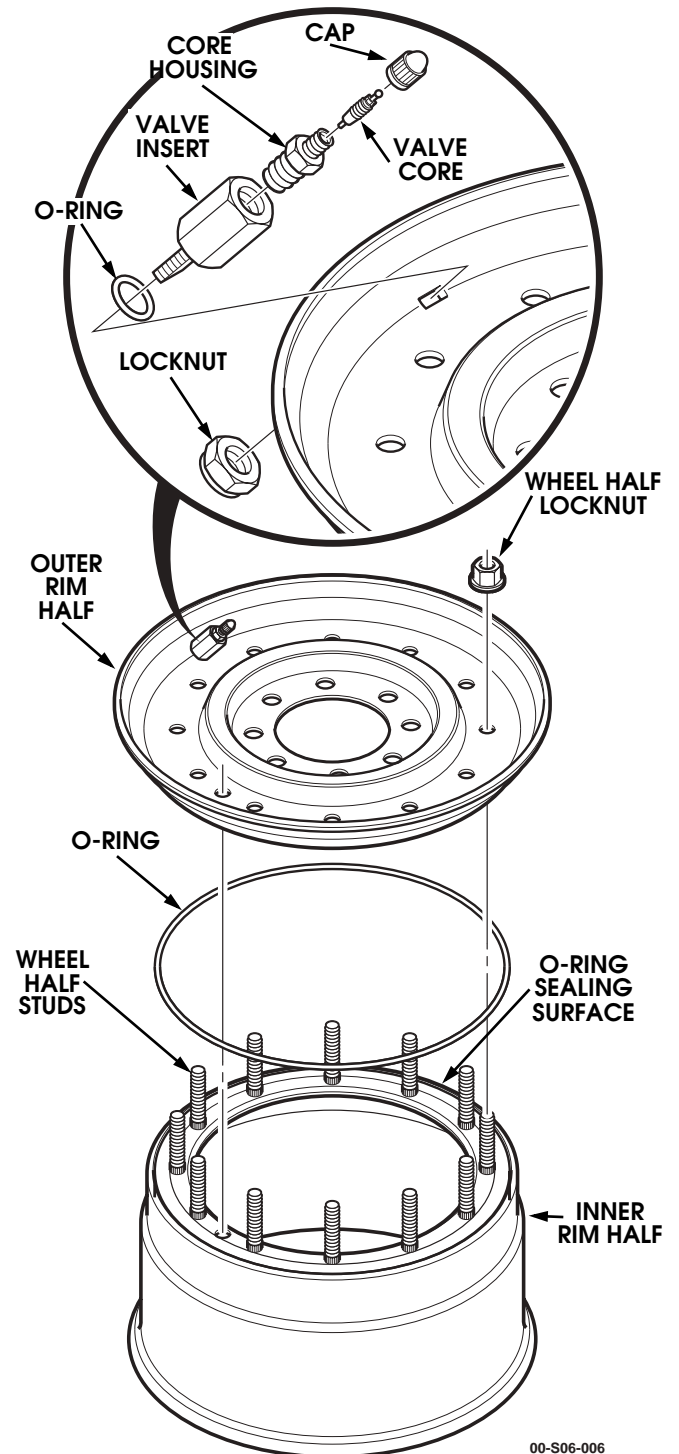

Figure 6-8: Two-Piece Rim Breakdown
10. Using wire brush, clean wheel attaching studs. Clean all dirt and foreign material from rim halves with soap and water and allow to air dry. Ensure O-ring sealing surfaces on rim halves are smooth and clean (Figure 6-8).
13. Inspect valve core for cracks or deterioration. Replace valve core if damaged (Figure 6-8).